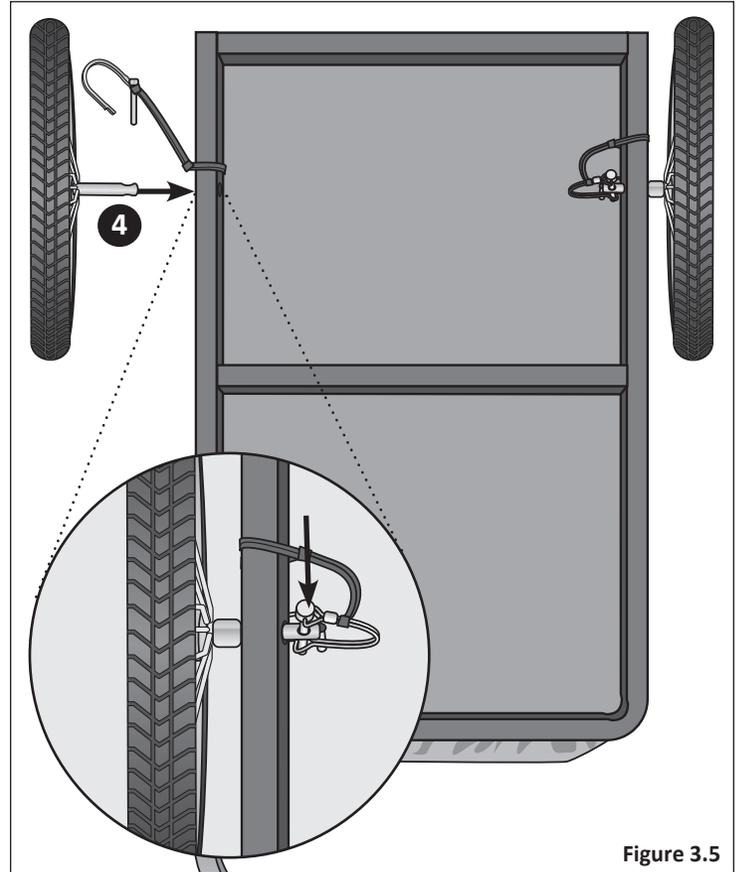

Figure 3.5
- 4** Repeat steps 2 and 3 for the remaining wheel. **Figure 3.5**